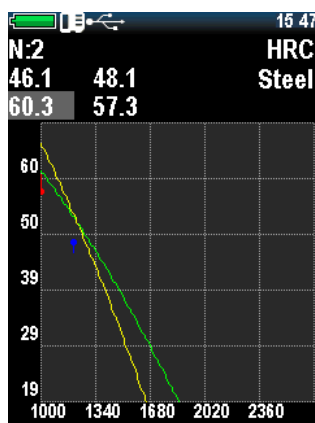

Figure 2.39 - After correction the second sample
7. Press <  >, to set up the second sample value, the procedure will be the same as for the first one. After the end of all the operations, the display will look as on Figure 2.39.